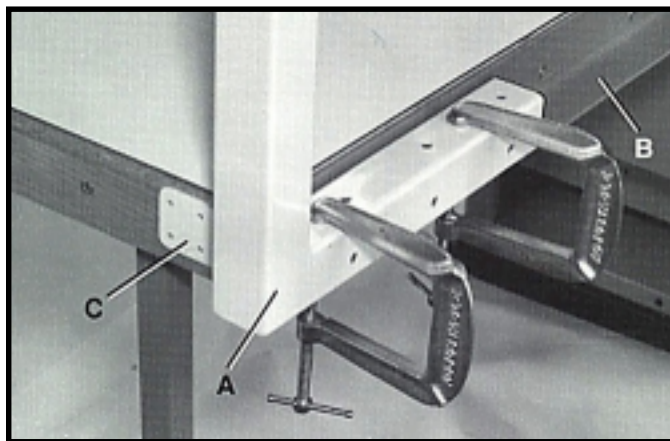

Fig. 5
1. Clamp the guard mounting bracket (A) Fig. 5 to the back rail (B) of the fence system, making sure the metal tab (C) is flush up against the table frame as shown.